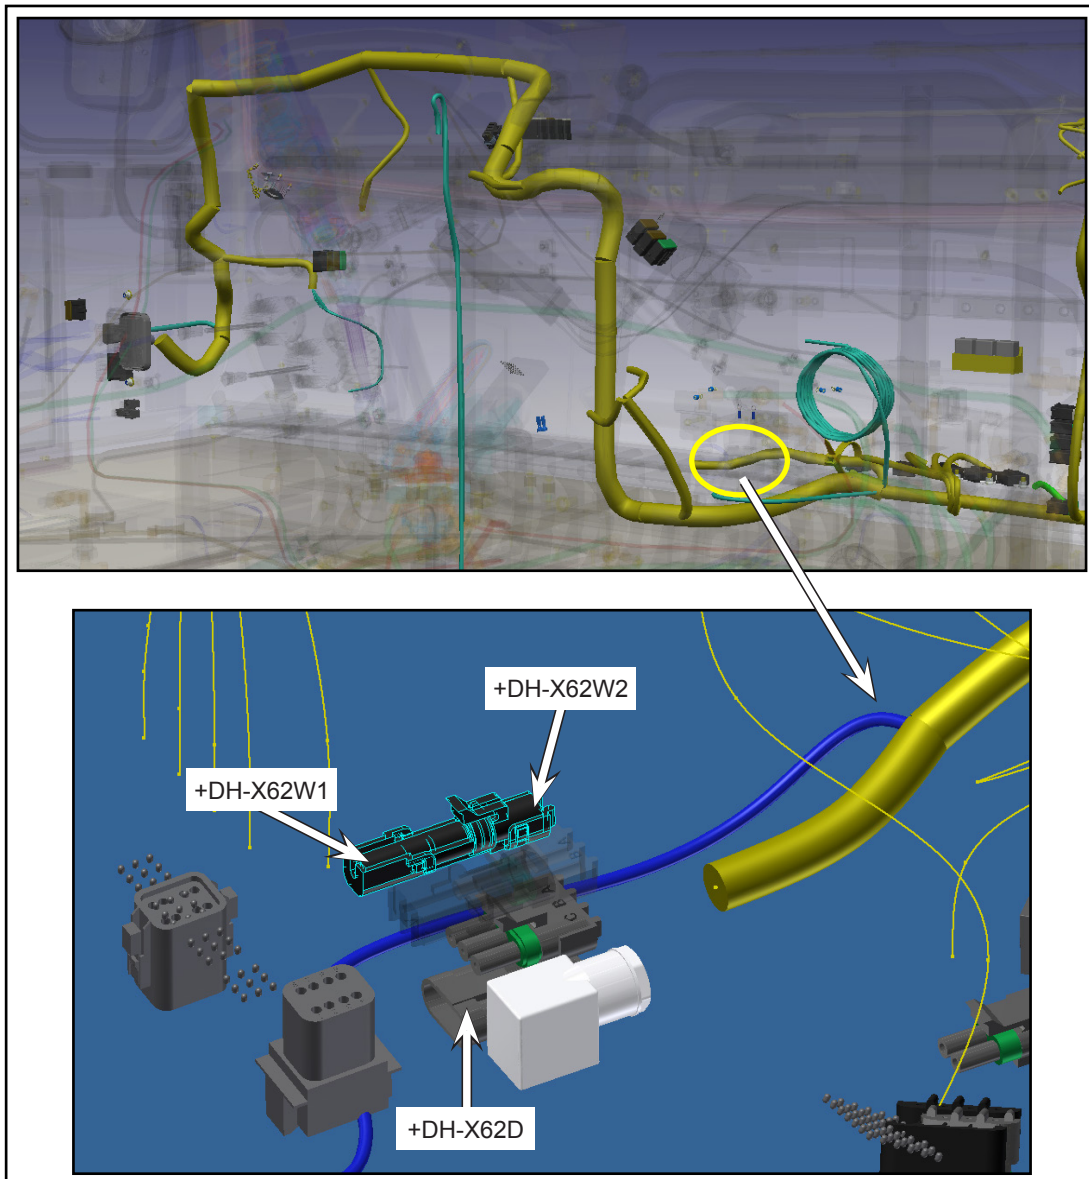

Figure 4 - Location of +DH-X62W1 / W2 Connector Pair
- 1.9. Locate the mating connectors pair +DH-X62W1 / W2, disconnect it and secure the existing connectors on the harness bundle with cable ties (see Figure 4).